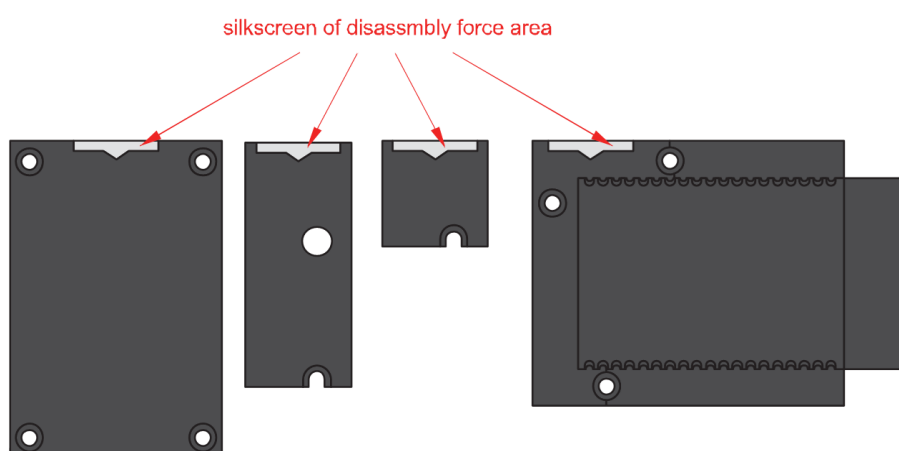
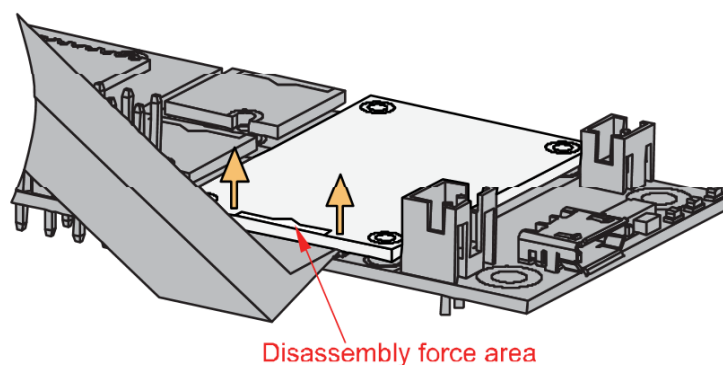

Figure 20: Detaching silkscreen on the WisBlock module
Figure 21: Applying even forces on the proper location of a WisBlock module to detach the module from the Base Board
2. Once the screws are removed, on the PCB of a WisBlock module, there is a silkscreen that shows the correct location where force can be applied. By applying even force under the marked area, the module can be detached from the Base Board. See **Figure 20** and **Figure 21**.